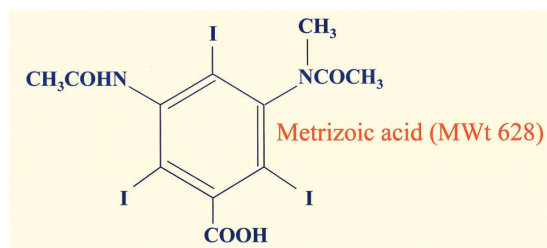
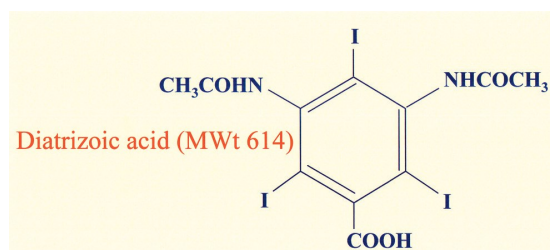

Figure 1 Molecular structure of metrizoic acid
Figure 2 Molecular structure of diatrizoic acid
Iodinated media are derivatives of triiodobenzoic acid and capable of forming solutions that are uniquely capable of banding any biological particle, according to its buoyant density, often under isoosmotic conditions. In 1968 Bøyum (1) published his famous density barrier method for the isolation of mononuclear cells from human blood that used sodium metrizoate (Figure 1) and Ficoll®. This technique received universal approval and Nycomed was the first company to introduce a ready-made medium in 1973 based on his original formula. The modern version is called Lymphoprep™ and more recently metrizoate has been replaced by diatrizoate (Figure 2).